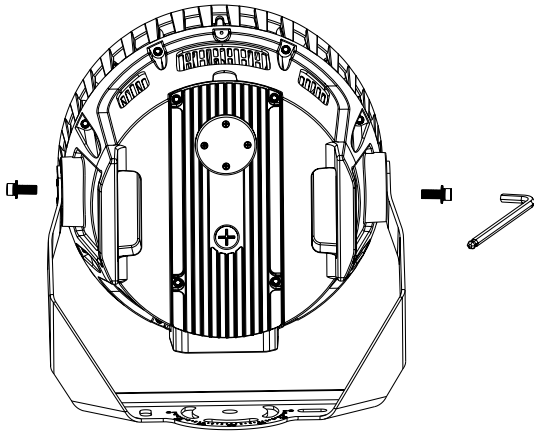

Figure 1
- Fix the trunnion mount to the heat sink with M10 screws (Figure 1).